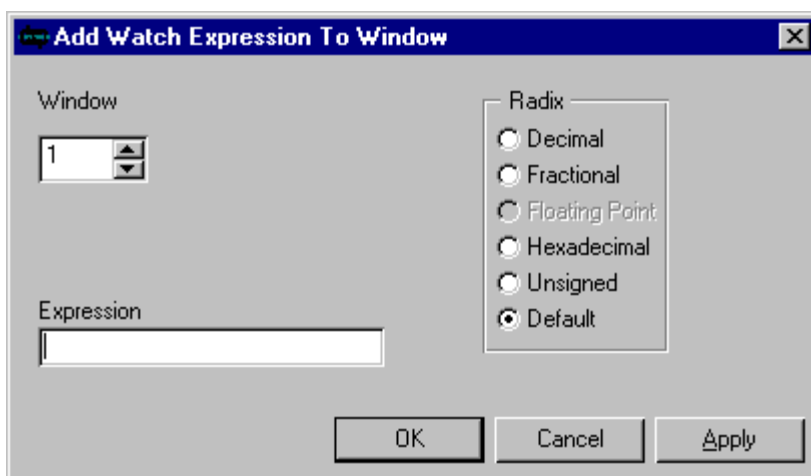

Figure 2-5. Add Item to a Watch List
1. From the **Windows** menu choose **Watch**. The dialog box in Figure 2-5 appears.